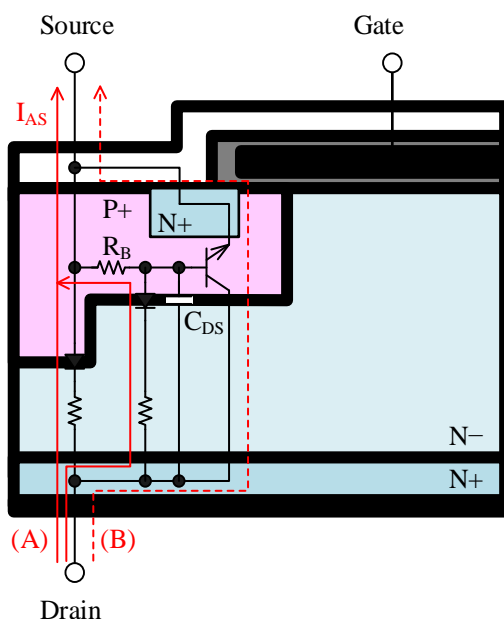

Figure 2-12. Section View of a Planar Power MOSFET (N-channel)
Figure 2-12 shows a section view of a planar power MOSFET (N-channel). In the breakdown region, the avalanche current, I_{AS} , flows as shown in (A) in Figure 2-12. At this time, a voltage is generated across the base resistor, R_B , of the parasitic NPN bipolar transistor. When the voltage exceeds the base-to-emitter voltage that turns on the parasitic NPN bipolar transistor, a current flows as shown in (B) in Figure 2-12. At this time, if the drain-to-source voltage is high, the secondary breakdown occurs in the parasitic NPN bipolar transistor, thus, the current flowing through the transistor increases rapidly, resulting in the destruction of power MOSFET.